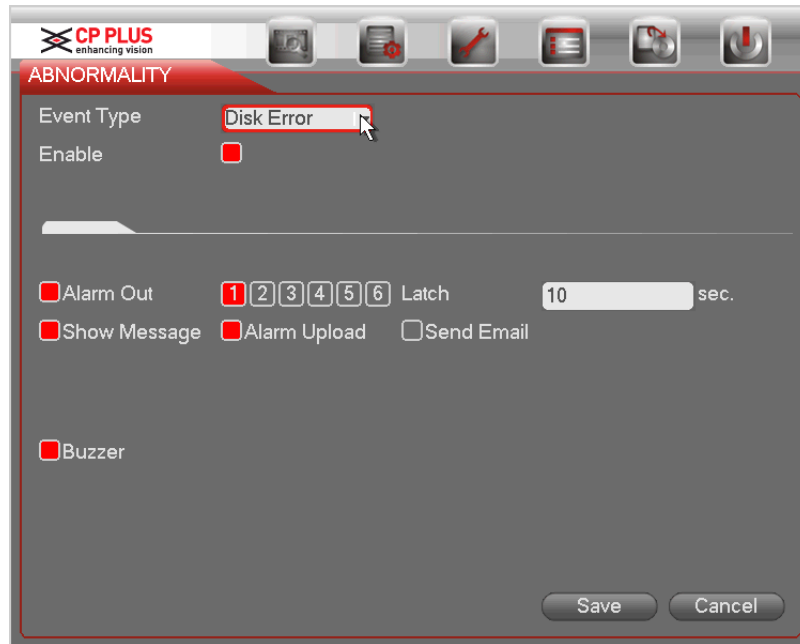

Figure 2-68
- ✧ HDD: HDD error, no disk, no space. See Figure 2-68 and **Error! Reference source not found..**